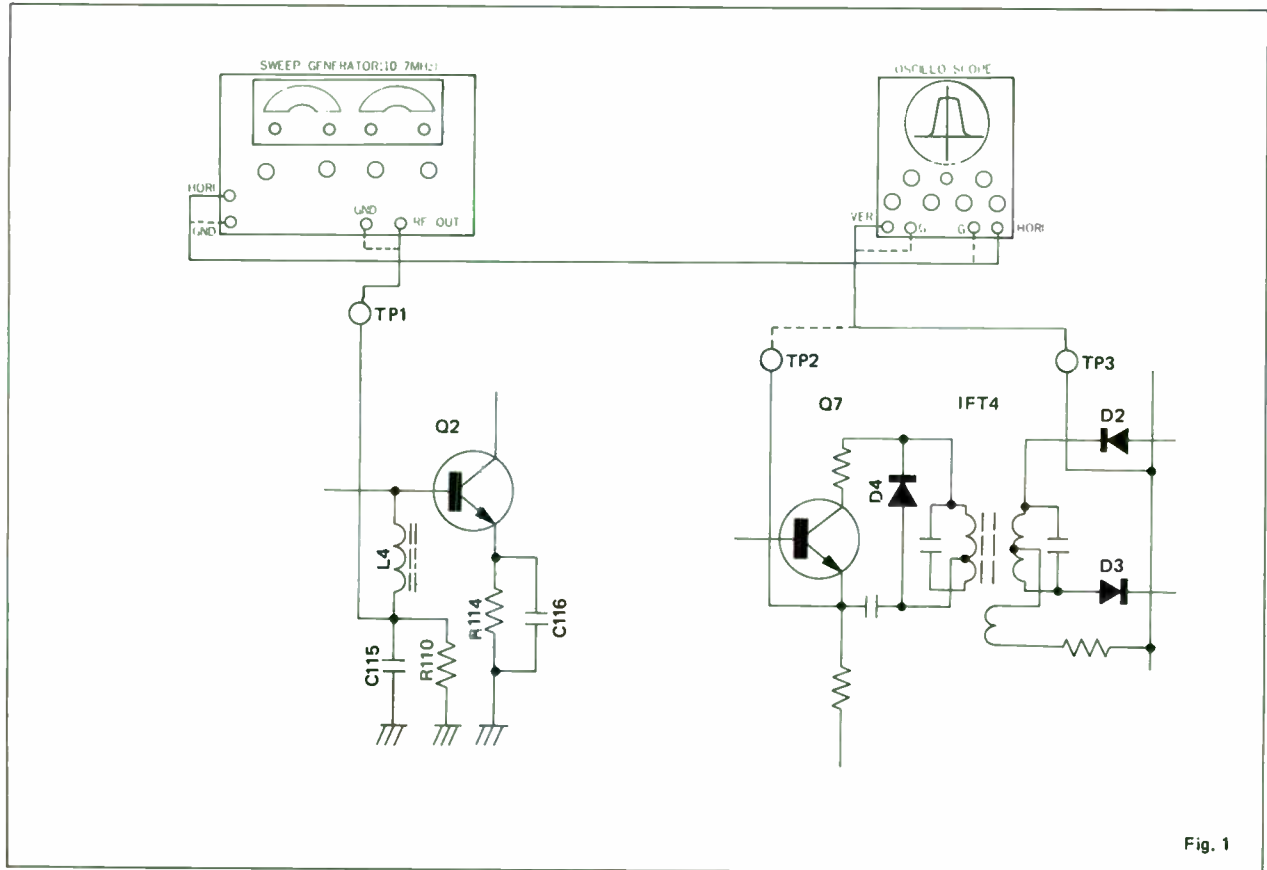

Fig. 1
2. With the sweep generator frequency set to 10.7MHz when the output level of the sweep generator is gradually increased, waveform shown in Fig. 1, appears on the CRT screen. Now perform the following adjustment.
waveform as shown in Fig. 1.
4. Now shift the connection at TP.2 to TP.3. A waveform shown in Fig. 1 will be obtained. Adjust IFT4 to obtain IF waveform with good upper/lower symmetry (by adjusting black core) and good linearity in the middle part (by adjusting blue core).